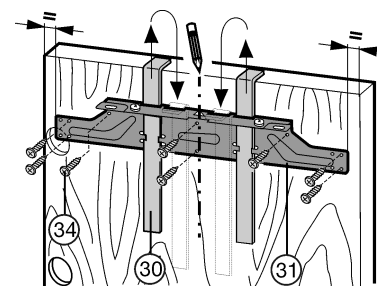

Fig. 20
- ▶ Attach the crosspiece *Fig. 20 (31)* together with the assembly aids *Fig. 20 (30)* to the inside of the unit door.
- ▶ Concentrically align the crosspiece *Fig. 20 (31)*: Mark a short centre line on the unit door and put the tip of the arrow on the crosspiece over it.
- ▶ Tightly screw the crosspiece *Fig. 20 (31)* into place using at least 6 screws *Fig. 20 (34)*.
- ▶ Tightly screw the crosspiece *Fig. 20 (31)* into place using 4 screws *Fig. 20 (34)* at the edge.
- ▶ Raise and remove the assembly aids *Fig. 20 (30)*, turn them and slide them into the adjacent openings.